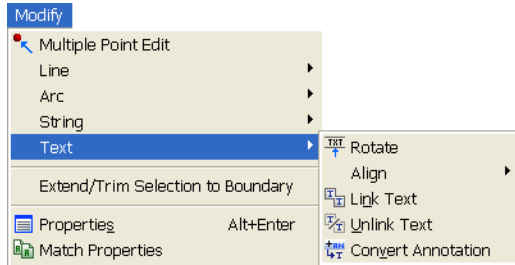

Figure 10-29. Modify – Text Menu Options
2. Click **Modify** ▶ **Text** ▶ **Rotate** (Figure 10-29).